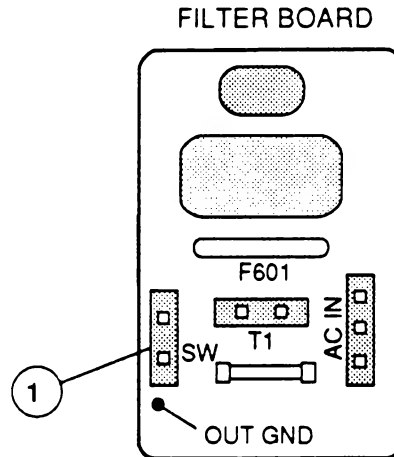

**FIGURE 19**
5. Disconnect the power switch connector from SW on the line filter board (Figure 19, #1).